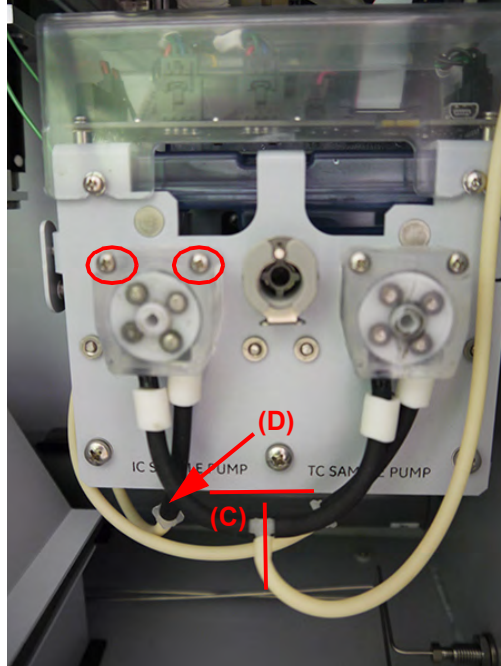

Figure 58: Sample Pump Heads and Tubing — IC Side
12. Now replace the IC pump head. Disconnect the right *inlet* tubing coming out of the pump head from the fitting at the end of the IC waste tubing **(C)**, Figure 58.
13. Disconnect the left *outlet* tubing coming out of the pump heads from the T-connector (D), Figure 58.
18. Connect the left tubing end to the T-fitting (C), Figure 58.
19. Connect the right tubing end to the IC waste tubing (D) Figure 58.